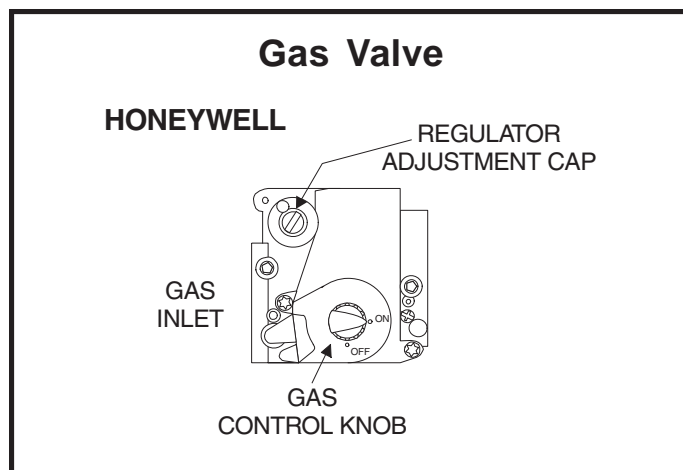

Figure 5
3. Turn the gas valve control knob to the "ON" position (see Figure 5).
2. Depress and turn the gas valve control knob to the "OFF" position (see Figure 5).